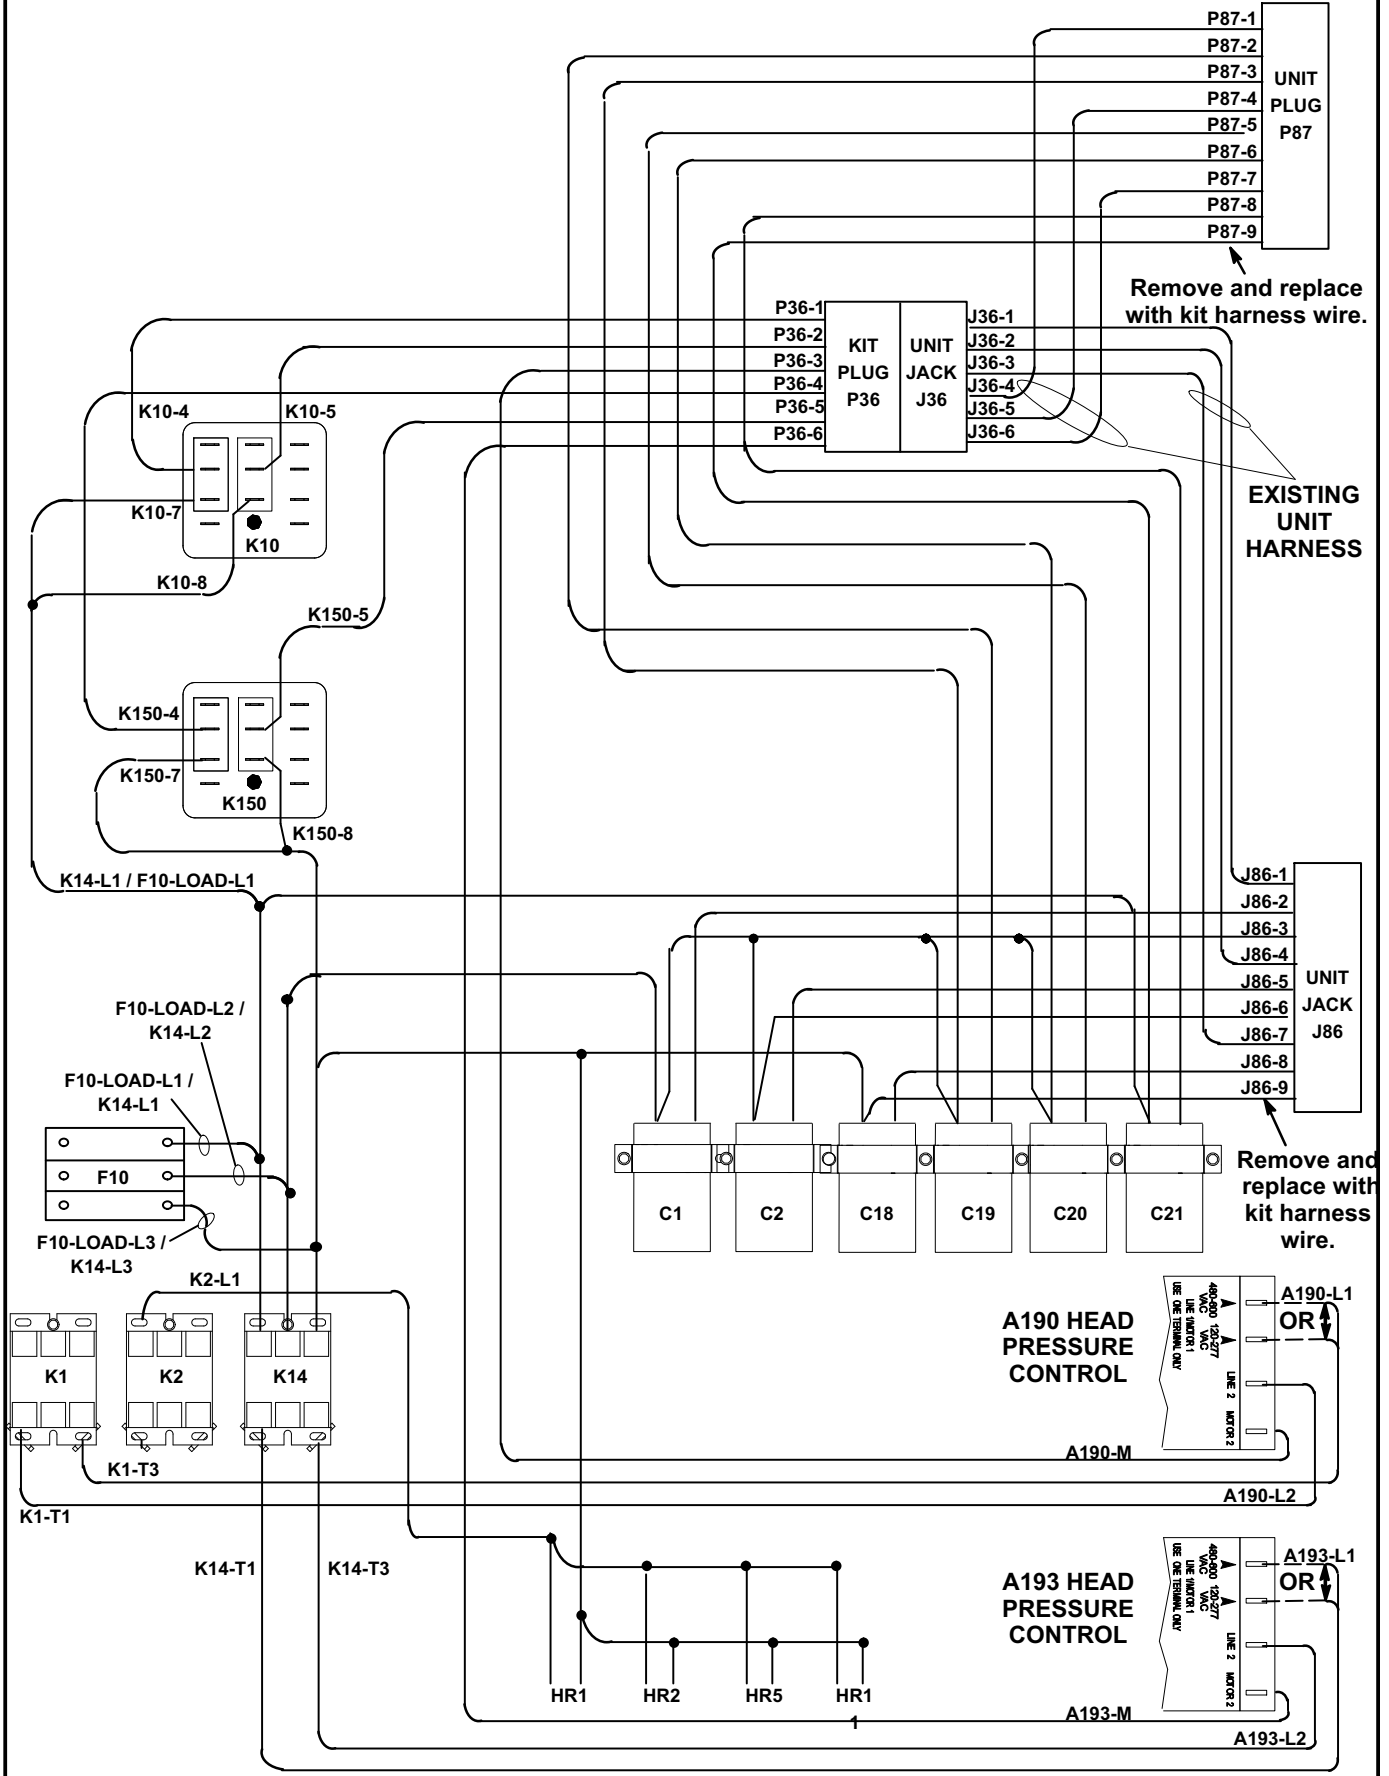

FIGURE 8
- 9- Install the kit power wiring harness as shown in figure 8.